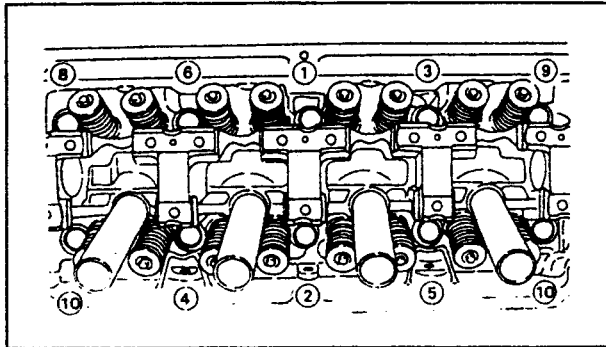

Fig. 1.31. — Tightening sequence for the cylinder head bolts. The bolts are slackened in reverse order.
- Tighten each cylinder head bolt in the order shown in Fig. 1.31 in several stages to 8.0 kgm (57 ft.lb.).
- In reverse order to Fig. 1.31 slacken all bolts (10 becomes 1, 9 becomes 2, etc.)
- Tighten the bolts in the order shown in Fig. 1.31 to 2.0 kgm (15 ft.lb.).
- Tighten each cylinder head bolt in the order shown in Fig. 1.31 in several stages to 7.5 kgm (54 ft.lb.).